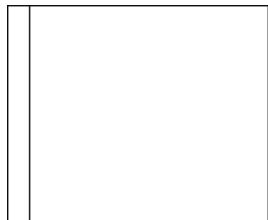

FIGURE 2.20 The first line is offset.
4. Click a point somewhere inside the box (you don't have to be precise, just so long as you select a point inside the box). The offset takes place, and the new line is exactly 0.5 units to the inside of the chosen line (see Figure 2.20). Notice that the pickbox comes back on. The OFFSET command is still running, and you can offset more lines by the same distance. You have three more lines to offset.